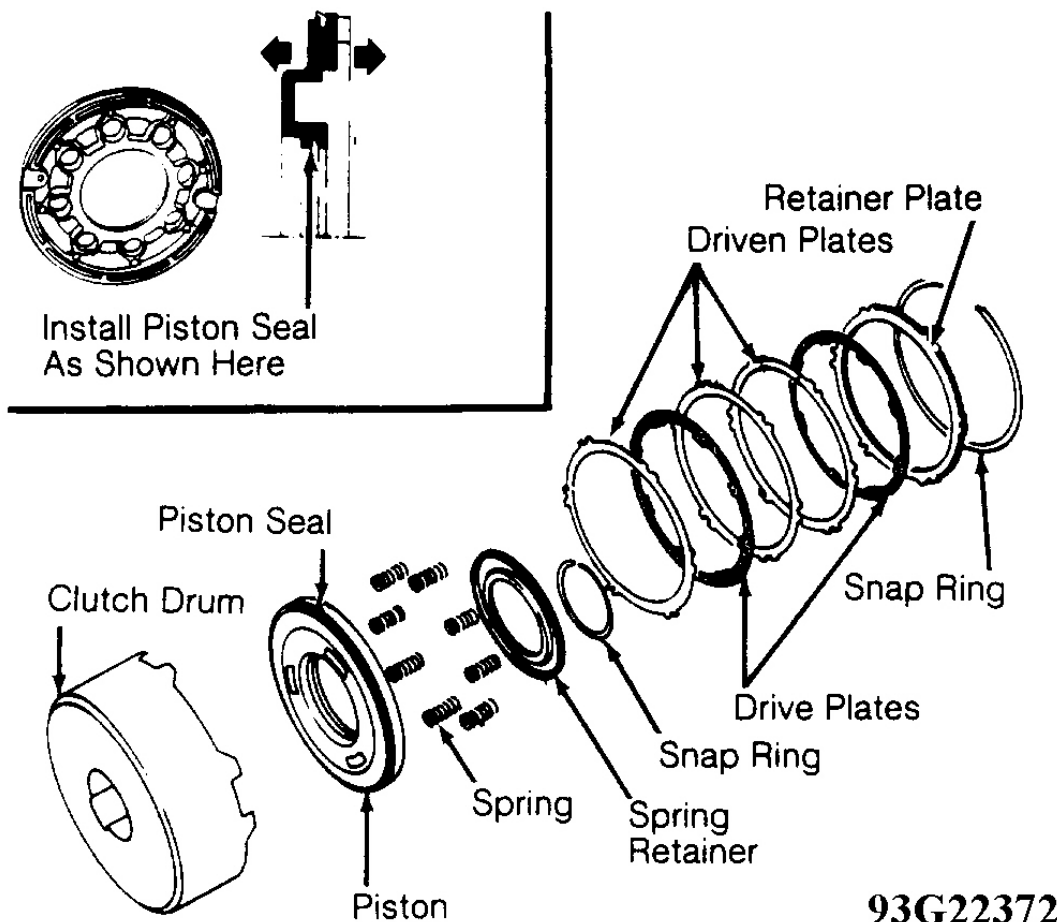

Fig. 11: Exploded View Of High-Reverse Clutch Assembly
1. Using screwdriver, remove large snap ring and retainer plate. See **Fig. 11** . Remove clutch plate assembly, noting number and arrangement of drive and driven plates.
1. Lubricate components with ATF. Install piston seal being careful not to damage seal during installation. Ensure piston seal is installed in proper direction. See **Fig. 11**.